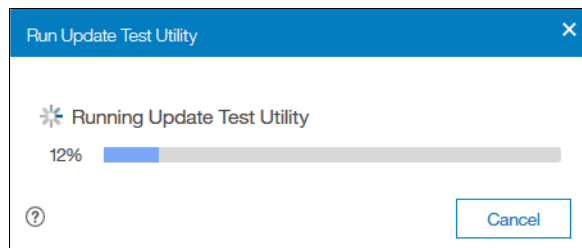

Figure 12-36 State while the test utility runs
5. After the files upload, the test utility is automatically run, as shown in Figure 12-36. The test utility verifies that no issues exist with the current system environment, such as failed components and drive firmware that is not at the latest level.